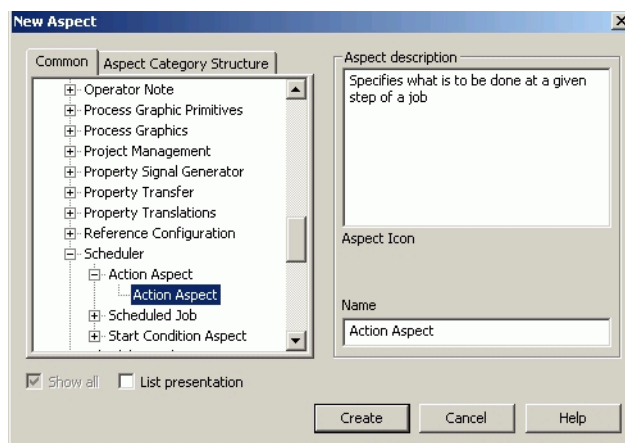

Figure 245. New Aspect Dialog
2. In the New Aspect dialog, browse to the Scheduler category and select the Action aspect (path is: **Scheduler>Action Aspect>Action Aspect**), Figure 245.